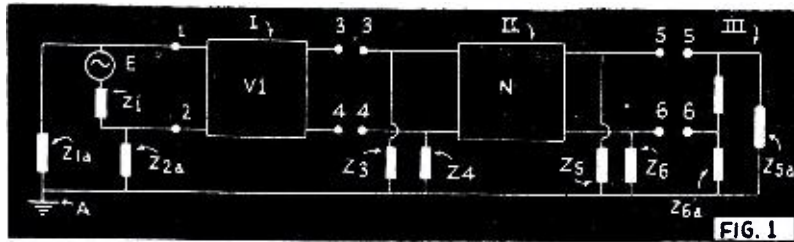
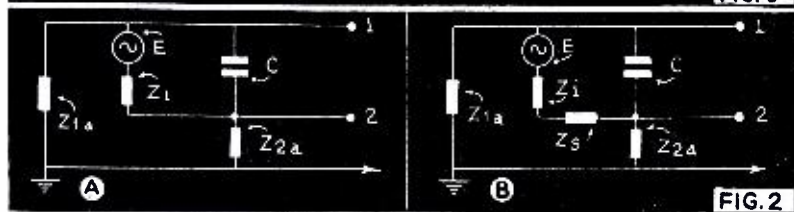
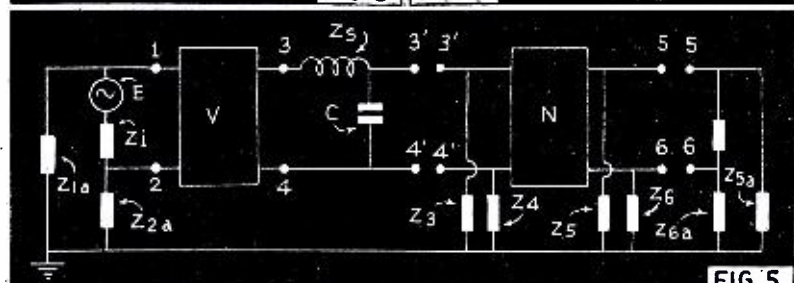

FIG. 1
FIG. 2
FIG. 5
INTERFERENCE which occurs in radio reception due to sudden changes of currents or voltages in electrical apparatus is usually communicated by this apparatus to the radio receiver by way of the light line. It is therefore of the greatest importance to make it impossible for the source of interference to infect the light line with an interference. How it is possible to prevent electrical apparatus connected with the light line (or "mains") from communicating disturbing interference voltage to the line will be discussed with reference to Fig. 1.¹
Fig. 2. Suppression of interference is obtained by introducing a capacity C between the terminals 1 and 2 in the circuit of Fig. 1, when the internal impedance Z_i is not too low (A). Otherwise an impedance Z_s must be introduced in series with Z_i (B).
(1) The equivalent circuit of a source of interference connected with a receiving set by means of the light lines has already been derived in Philips Techn. Rev. 3, 235, 1938.
*Merely for purposes of discussion the source of interference, as for instance, certain types of electric motors (as in shavers, etc.), etc., is here considered to be an assembly—identified in the equivalent circuits as quadrupole V_1 —having 4 poles or terminals. The interference voltage, even though it originates within the mechanical confines of the assembly, is considered as being apart from the assembly and, for analysis, only electrically connected to it at assembly-input terminals 1 and 2. Thus, in the instance of certain electric shavers, "quadrupole V_1 " would represent not only the shaver as a whole but also its motor, but the interference voltage generated at the brushes of the motor would be, in Fig. 1 for example, E and Z_i shown external to the shaver-and-motor (quadrupole V_1). The shaver's motor leads which connect to the light line then become assembly-output terminals 3 and 4 on quadrupole V_1 .
scheme of Fig. 4, however, care must be taken in choosing C , as has been remarked by the discussion of Fig. 2. The reignition voltage V_D of a rectifier is considerably higher than its working voltage V_B , so that upon ignition a large e.m.f. $V_D - V_B$ is suddenly released in the circuit between anode and cathode. If the condenser has been chosen too large, it causes large current surges of low frequency through the rectifier tube, which can considerably decrease its life. Especially in rectifiers which can be regulated by means of their grid voltage (3) $V_D - V_B$ may be very large, and it is then advisable to avoid a condenser in the connection of Fig. 4, and cause suppression of the interference in some other way, and not directly behind the rectifier.
Fig. 5. Suppression of interference is obtained by introducing an element consisting of a condenser C and an impedance Z_s , directly behind the quadrupole V , which connects the source of interference with the light lines. This must be done when the source of interference E cannot itself be reached for the introduction of an interference-suppressing element in the way indicated in Fig. 2.
For practical reasons it is often impossible to reach the place where the interference voltage is generated. In the connections of Fig. 1 it is then only possible to introduce the interference suppressor behind the quadrupole V_1 , for instance, between terminals 3 and 4 which form the output terminals of this quadrupole. If we introduce an asymmetrical interference-suppressing filter at that point, as indicated in Fig. 5, the condenser C between terminals 3' and 4' forms practically a short-circuit for high-frequency voltage. Such voltage does not then occur on the input terminals 3' and 4' of the light lines, but over the ground connections Z_{1a} , Z_{2a} , etc., a high-frequency interference voltage may very well reach the input terminals 5 and 6 of the receiving set with the connection 4'4' serving as return connection. In certain cases it is even possible that the interference is some-
If the symmetrical component of the interference voltage plays the main part, which occurs only seldom, removal of interference can of course always be achieved with the connection according to Fig. 5. If the ground impedances Z_{1a} and Z_{2a} are not large, it is advisable for the suppression of the asymmetrical component to divide the self-induction of the interference-suppressing element over the 2 connections, as indicated in Fig. 6. With such a connection the impedance of the circuit of the symmetrical interference voltage is not changed, but for the asymmetrical interference voltage, where the ground functions as return connection, the impedance is appreciably increased by the introduction of such a symmetrical interference-suppressing filter since 4,4' now also contains an impedance. The impedances L_1 and L_2 in the 2 connections need not be equal to each other in this arrangement, but both of them must be sufficiently large. In order to suppress the asymmetrical interference voltage adequately, they must moreover be large with respect to the impedance of the quadrupole V .